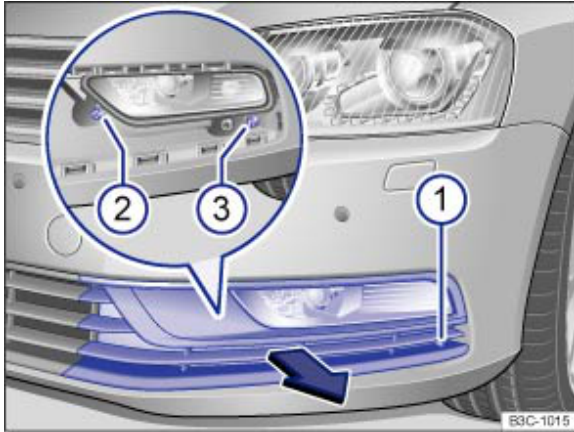

Fig. 244 Front bumper, left-hand side: fog lights, daytime headlights and cornering lights
2. Use the screwdriver from the tool kit ( → Fig. 223 ) to unscrew the securing bolt → Fig. 244 ① .
3. Pull the cover forwards in the direction of the arrow → Fig. 244 .
4. Remove the securing bolts → Fig. 244 ② ③ with the screwdriver.
13. Screw in securing bolts → Fig. 244 ② ③ .
14. Fit the cover on the bumper and screw in securing bolt → Fig. 244 ① .